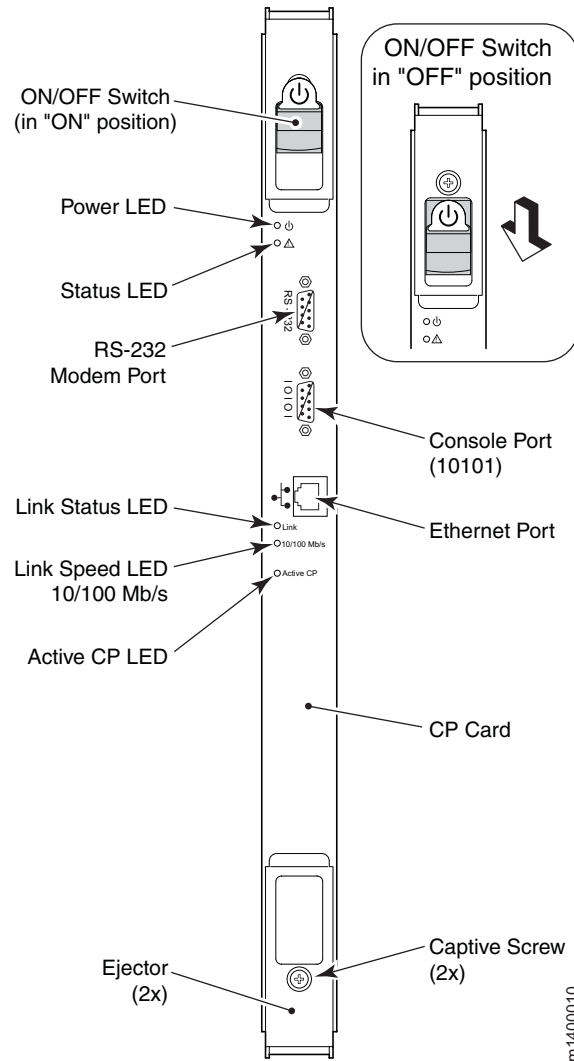

Figure 17. Front of CP card
1. Check the LED indicators on the CP card (see Figure 17). The LED patterns may temporarily change during POST and other diagnostic tests; for information about how to interpret the LED patterns, see Table 6 on page 24.